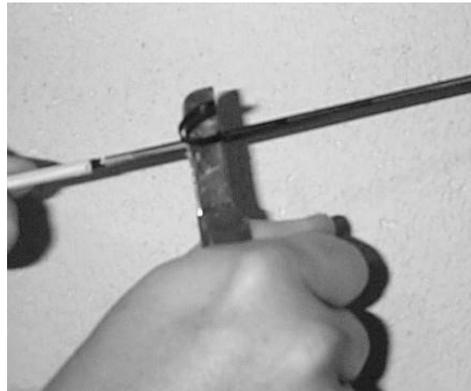

Figure 3 – Shave the cable jacket on top of the strength members.
4.4 Locate the position of the dielectric strength members. Use a cable sheath knife to shave the cable jacket on top of the strength members (Figure 3). Expose both strength members from the tape mark to the cable end.